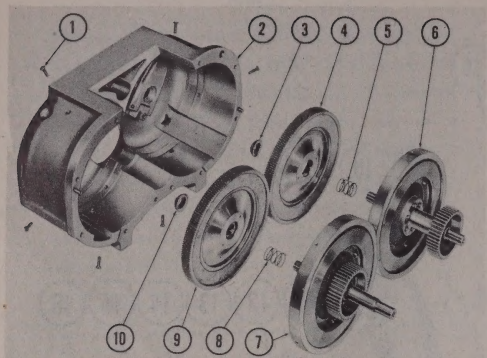
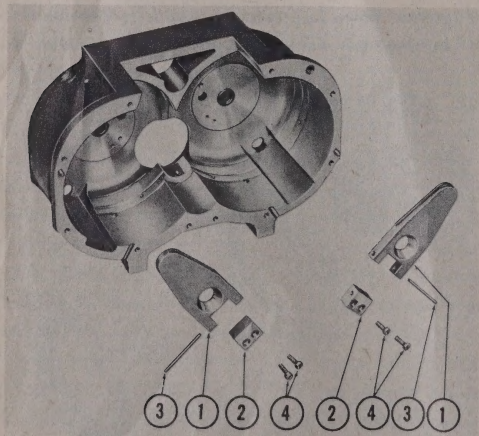

Figure 338 — Clutch and Brake Assemblies Removed
Figure 342 — Clutch Arm Assemblies
(13) REMOVE AND DISASSEMBLE CLUTCH DISC ASSEMBLIES, CLUTCH GEAR AND BEARING ASSEMBLIES. (See figure 338.)
(a) (See figure 338.) Remove the six flathead screws (1) which secure the left and right-hand clutch disc assemblies (6 and 7) to the housing (2). Place scribe marks on each brake ring and on the housing to make alignment of these parts easier in reassembly.
(g) (See *figure 342*).—Remove the two clutch arm assemblies by removing the two fillister-head screws (4) which hold each arm assembly in place. Separate the arms (1) from the hinges (2) by cutting off one end of each of the arm hinge pins (3) and driving them out.
(1) INSPECT PARTS FOR NOTICEABLE DAMAGE.—Inspect all disassembled parts of the servo unit for any damage which might hinder its functioning as part of the assembled unit. Examine all cast-
(4) CLUTCH AND BRAKE ARMS, THRUST BEARINGS, AND COLLARS.—Carefully examine for burrs or scratches in the recess in the clutch arm assembly (1, *figure 342*) into which the clutch thrust collar (3 and 10, *figure 338*) fits. Carefully examine
ARM ASSEMBLIES. (See figure 342.)